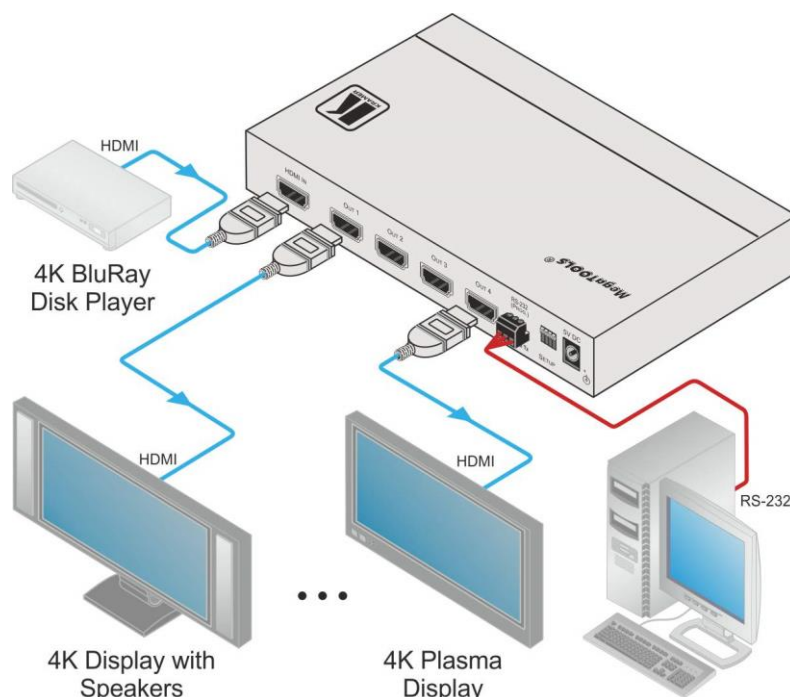

Figure 2: Connecting the VM-4H2 4K HDMI 2.0 1:4 DA
To connect the **VM-4H2**, as illustrated in the example in Figure 2, do the following:
3. Connect the 5V DC power adapter to the power socket unit and then connect the adapter to the mains electricity (**not shown in Figure 2**).